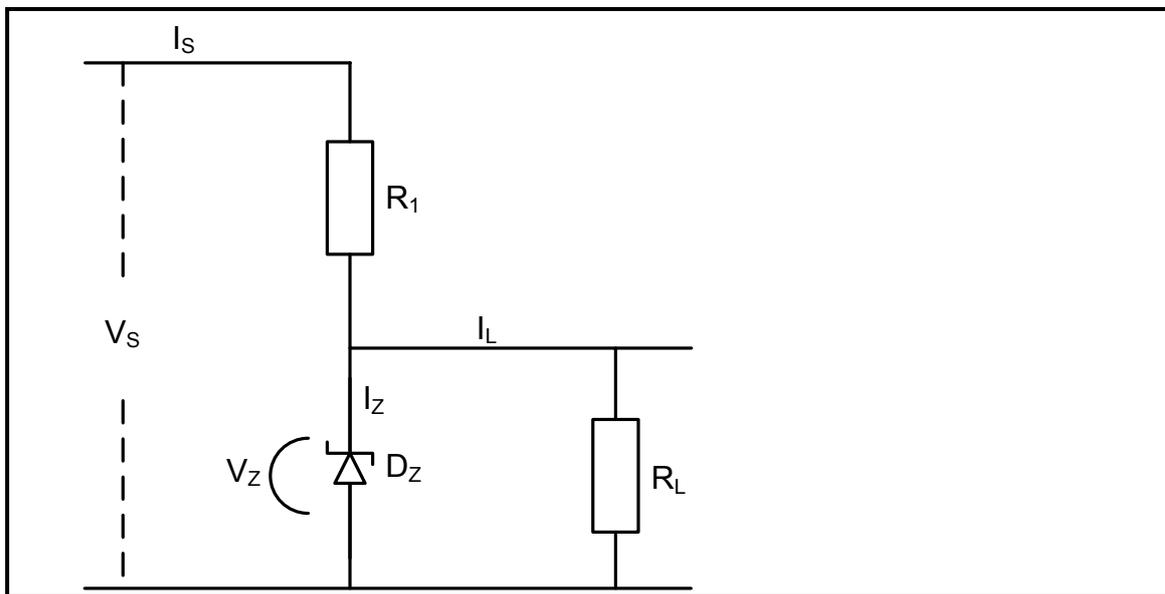

FIGURE 12.3: REGULATED ZENER DIODE CIRCUIT
- 12.3 Refer to the circuit diagram in FIGURE 12.3 below and answer the questions that follow.